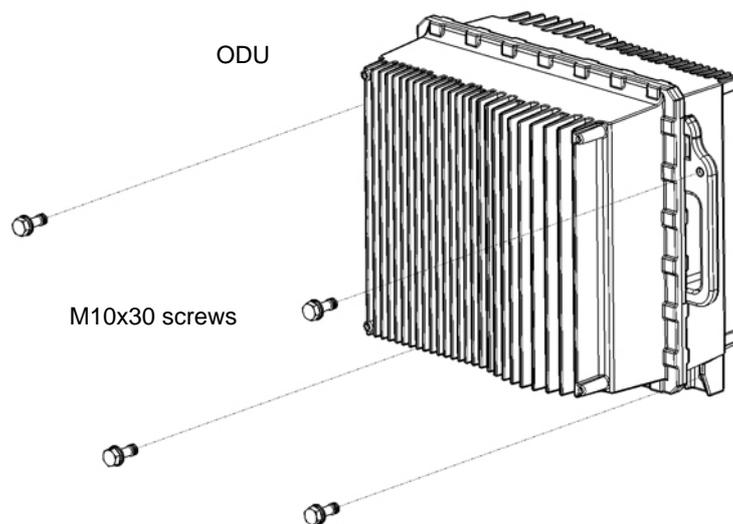

Figure 2-4: Preparing the 4x2 ODU for Installation
- 2 Insert the four M10X30 screws into the designated holes (Figure 2-4).
- 1 Prepare the two ODUs for installation as shown in Figure 2-4.
- 1 Prepare the three ODUs for installation as shown in Figure 2-4.